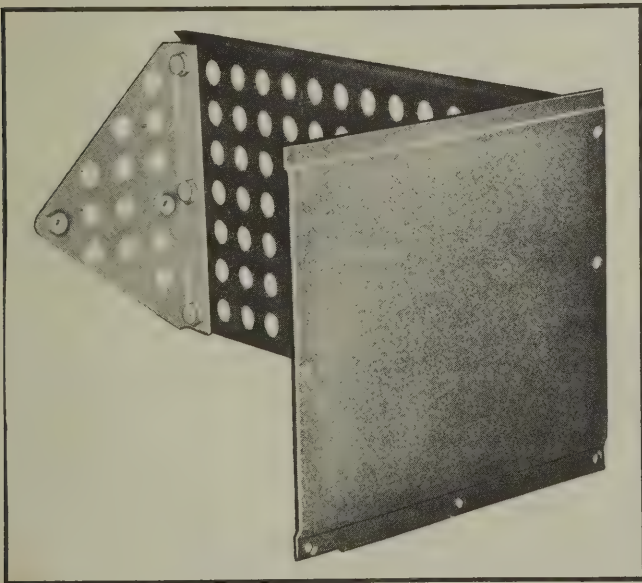

Figure 1-7—Panel MX-128/ART-13
(4) **PANEL MX-128/ART-13.** Figure 1-7 is a blank panel with a resistor to be installed in the transmitter when no low frequency operation is desired. It fills the part of the transmitter panel used for the low frequency oscillator controls and provides the necessary resistor to replace the filament circuit of the low frequency oscillator tube.